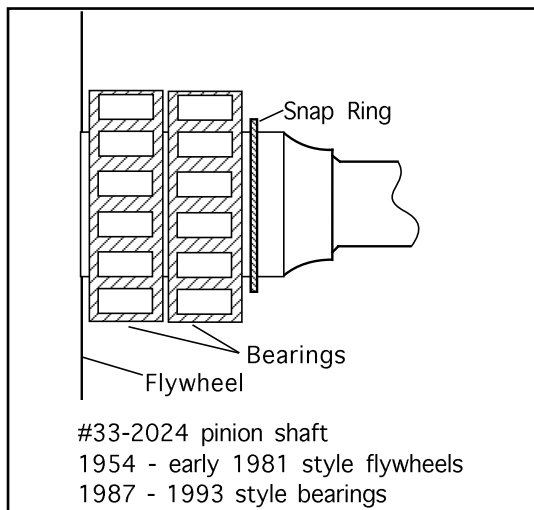

Figure 4
1. 1954 to early 1981 stock flywheels or S&S® SE or L style flywheels and S&S pinion shaft 33-2024. No thrust washers are normally used. Typical bearing arrangement - bearings against flywheel and snap ring. See Figure 4.